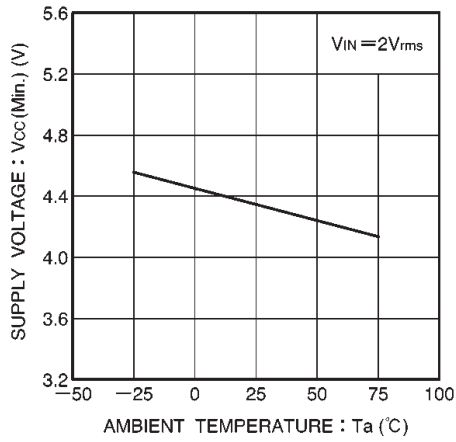

Fig. 6 16th point lighting limit supply voltage vs. ambient temperature
(1) Adjust the potentiometers VR₁ and VR₂ (connected to pins 1 and 3) to adjust the 0dB input level and the dispersion of ch1 and ch2.
(2) The temperature characteristic for the lighting limit for the 16th LED is shown in Fig. 6.